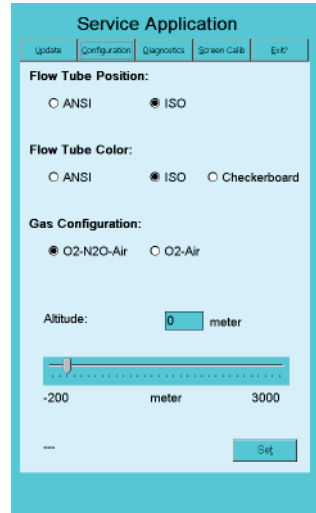

Figure 163 - Configuration Panel
2. Select the settings for the Flow Tube Position and Flow Tube Color that are appropriate for your country (Figure 163).